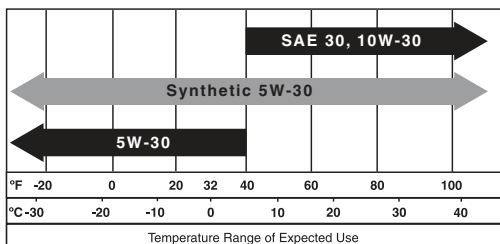

FIGURE 33: Recommended Oil Viscosity
SAE 10W-30 is recommended for general temperature use. Refer to Figure 33 for information on other viscosities that may be used. Other viscosities shown in chart may be used when average temperature in your area is within indicated range.
- ☐ Unused engine oil (SAE type indicated in Figure 33)
12. Pour new (unused) engine oil into oil fill hole using funnel. (See Figure 33 for recommended oil type). Do not overfill.